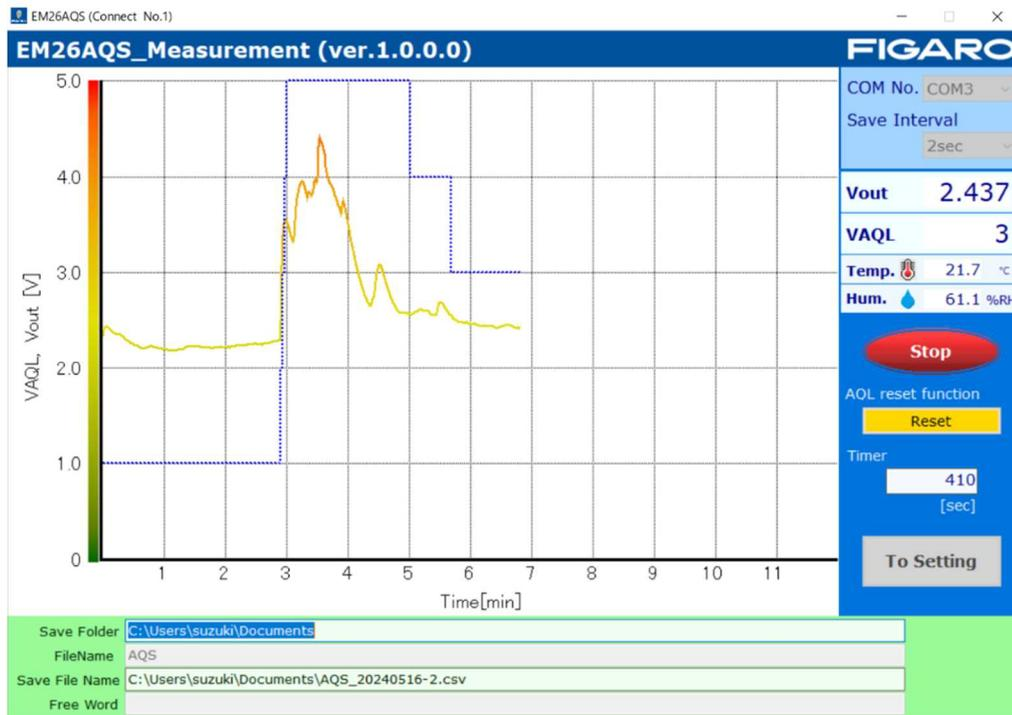

Figure 4: Example of measurement data display
⑩ Starting the Measurement
- The measurement period is every 2 seconds, and the screen displays measurement data from approximately 10 minutes ago to the latest measurement data. (Figure 4)